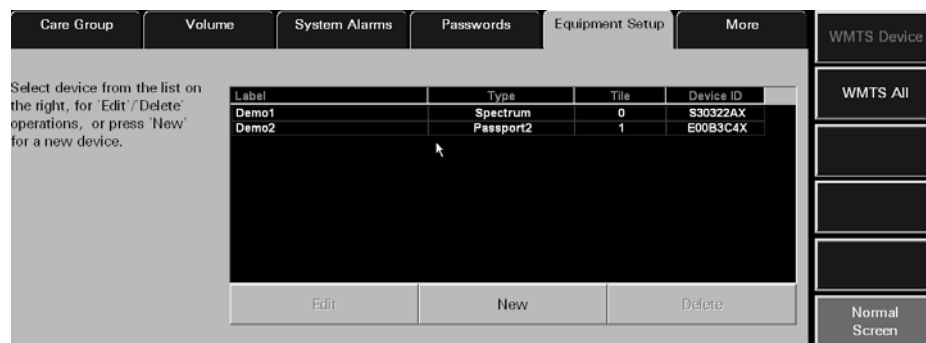
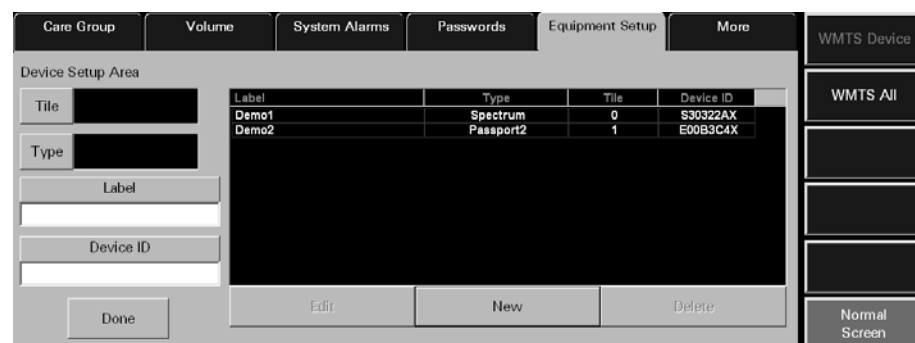

FIGURE 9-25 Equipment Setup Tab
FIGURE 9-26 Equipment Setup Tab (with Device Setup Area shown)
The **Equipment Setup** tab (shown in FIGURE 9-25 and FIGURE 9-26) adds, deletes, and modifies the equipment used with the Panorama Central Station. The **Equipment Setup** tab includes an equipment list that shows the types of equipment that may communicate with the central station. This tab is not available at the ViewStation or the WorkStation. Equipment maintenance can only be performed at the host central station.
1. Select the **New** button below the equipment list box. The Device Setup Area (shown in FIGURE 9-26) is displayed.